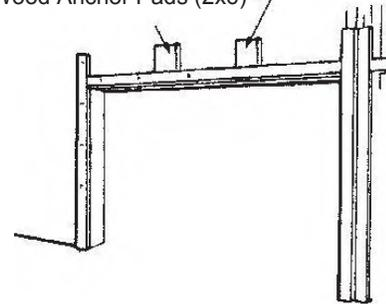

FIG. 15-A
- Using at least (4) long lag screws for wooden frames (or (4) 3/8" x 4" sleeve anchors for concrete frames), attach (2) 2" x 6" wood anchor pads to the frame of the garage across the center of door. Fasteners should be located in each corner of anchor pad, but no closer than 1-1/2" from the edge. (Fig.15-A).
NOTE: Header and side jambs should extend 12" above the top of the opening for 12" radius and 15" above the top of the opening for 15" radius (Fig. 15-A). Wood anchor pad may be off center to width of the opening by up to 10" in either direction.
- Slide the steel shaft coupler, a spring anchor bracket, torsion spring (left wound) with black winding cone, and black cable drum onto one section of the steel shaft (Fig. 15-B).
- Insert solid shaft key into coupler and tighten the two set screws (Fig. 15-C).
- Slide second spring anchor bracket, torsion spring (right wound) with red winding cone, and red cable drum onto the other side of the steel shaft (Fig. 15-D).